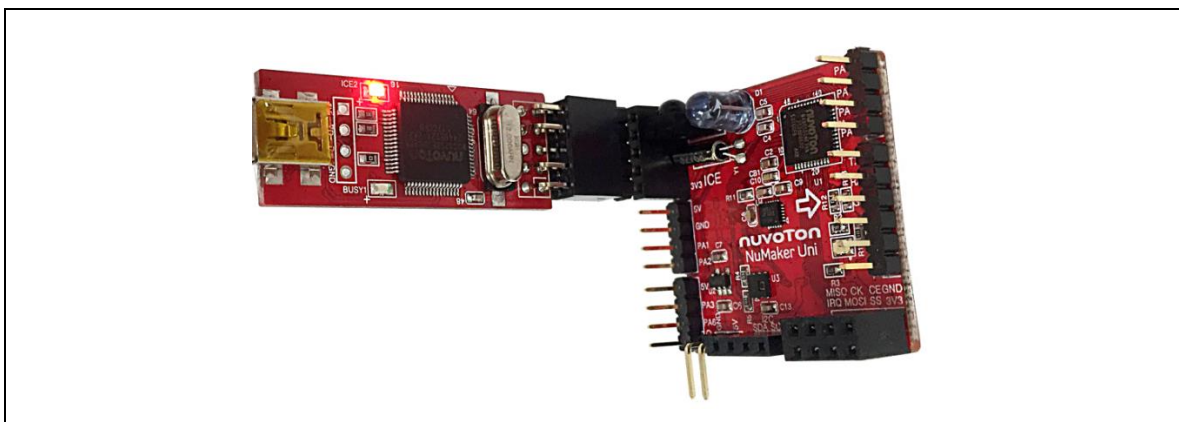

Figure 5-2 NuMaker Uni and Nu-Link Mini Connection
1. Connect Nu-Link Mini to NuMaker Uni on its ICE port (J2) as of Figure 5-2.